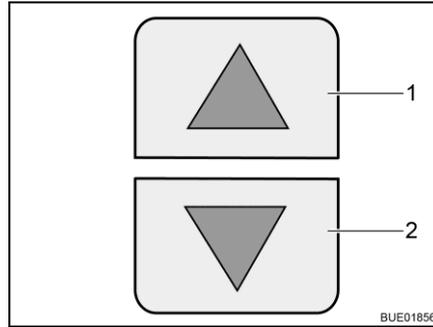

Fig. 141 Arrow keys on the control unit
- Press the arrow keys (Fig. 141,1 and 2) on the control unit simultaneously and keep them pressed until the pull-down bed has moved all the way down.
- Press the arrow key (Fig. 141,2) on the control unit and keep it pressed until the pull-down bed has moved down into the end position.
- Press the arrow key (Fig. 141,1) on the control unit and keep it pressed until the pull-down bed has moved up into the end position.
- Emergency operation** If it is not possible to move the pull-down bed via the arrow keys (Fig. 141), check the fuse Circuit 5 on the EBL 220 (see section 9.12.1). If the pull-down bed cannot be moved despite an intact fuse, the pull-down bed must be operated manually. To do this, proceed as follows: